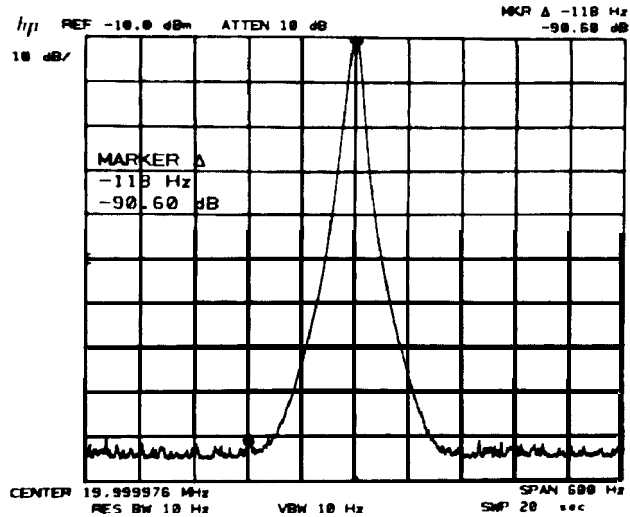

Figure 2-31. Line Related Sidebands Measurement
7. Press MARKER **PEAK SEARCH**, **Δ** and position movable marker at the peak of each line related sideband (120 Hz, 180 Hz, and 240 Hz for 60 Hz line frequency; 100 Hz, 150 Hz, and 200 Hz for 50 Hz line frequency, etc.). The MARKER A amplitude for each sideband should be <-85 dB (see Figure 2-31).